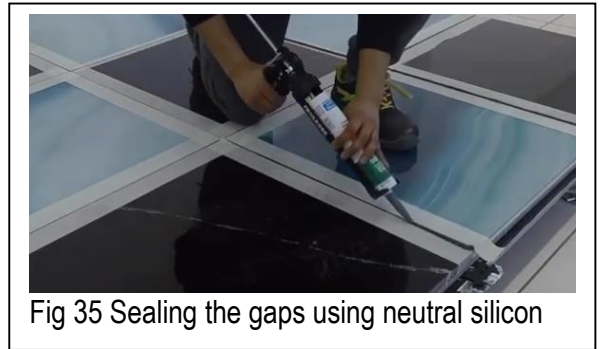

Fig 35 Sealing the gaps using neutral silicon
9. Cover the perimeter of all the flooring units using adhesive tape (fig. 35), leaving space to fill the gaps with silicon. Fill the gaps between all flooring units with neutral silicon.